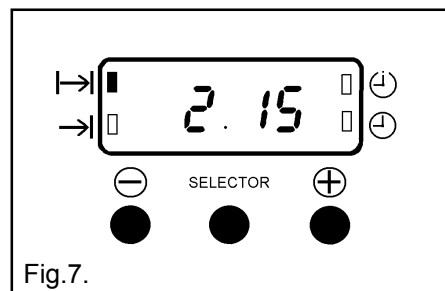

Fig.7.
- iii) To set the length of cooking time, press the Selector Control button until the 'Cook Time' indicator (|→) is illuminated (|→|). Press the increase control (⊕) until the required length of cooking time is displayed, e.g. 2 hrs 15 mins as Fig. 7. If necessary depress the decrease control (⊖) until the correct time interval is achieved.